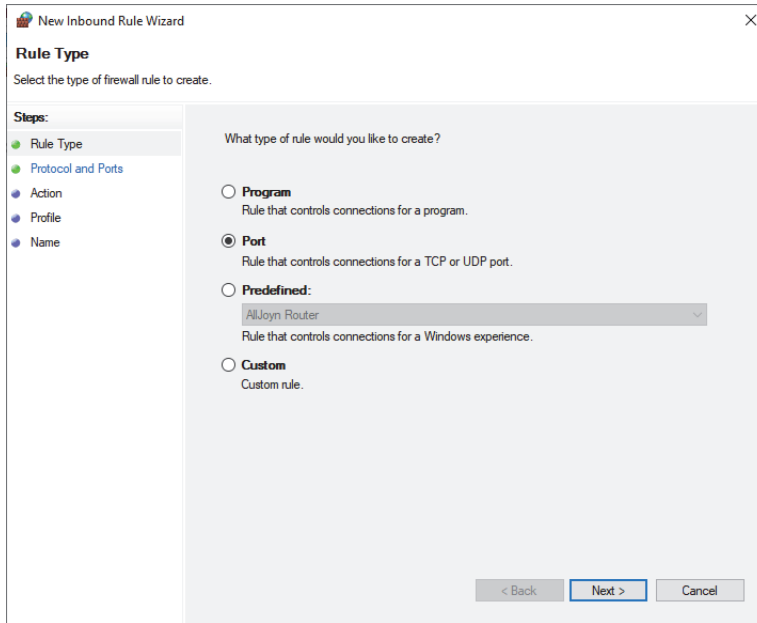

Figure 1-11 New Inbound Rule Wizard dialog box— Port
3. In the **New Inbound Rule Wizard** dialog box, select **Port** (Figure 1-11 on page 32).